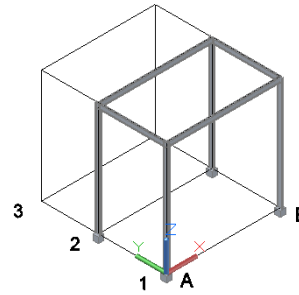

Figure 3-41 Model after adding columns and beams
5. Choose the **Member** tool and place beams on the grid. The model after placing all the beams is shown in Figure 3-41.